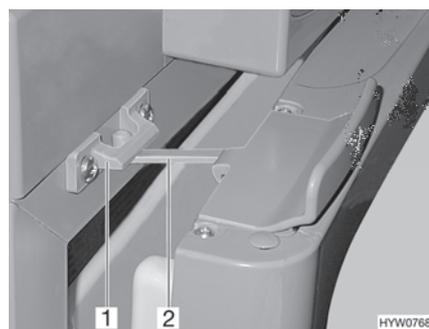

Fig. 135 Refrigerator door in ventilation position (Thetford)
- Open the lock (Fig. 135,2) and snap it into the locking catch (Fig. 135,1). The refrigerator door will then stay slightly open.